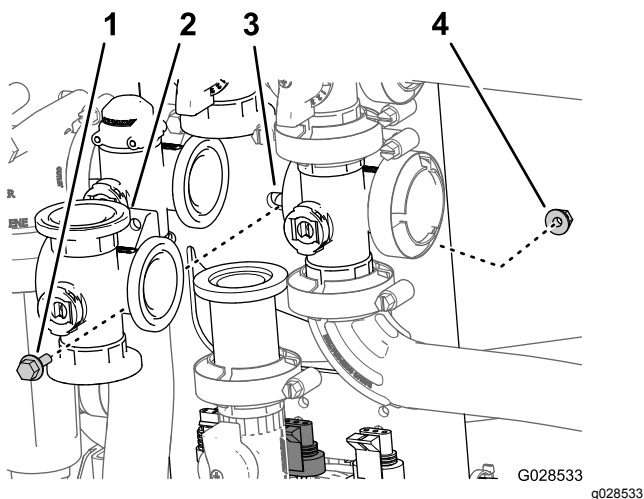

Figure 51
2. Remove the flanged-head bolt and flanged locknut that secures the agitation valve to the valve mount and remove the valve manifold from the machine (Figure 51).